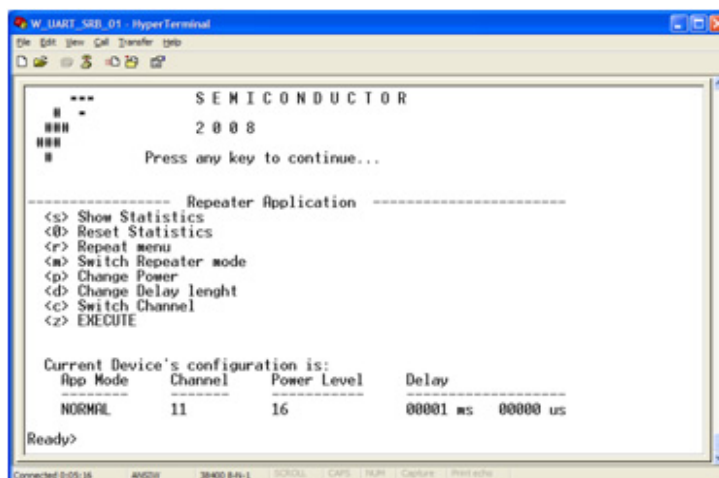

Figure 8-7. Repeater menu and configuration
- Type any key at the serial terminal software and the repeater menu appears as shown in Figure 8-7.